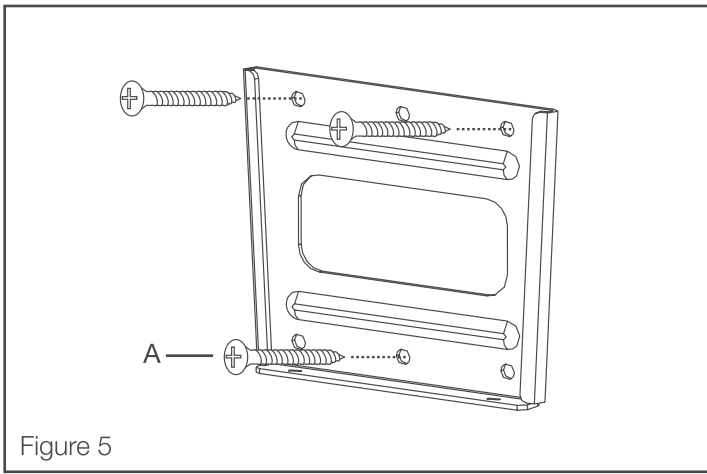

Figure 5
4. Attach using drywall bolts (A) provided (see Figure 5). Do not over tighten. Ensure wall plate is the correct way up.